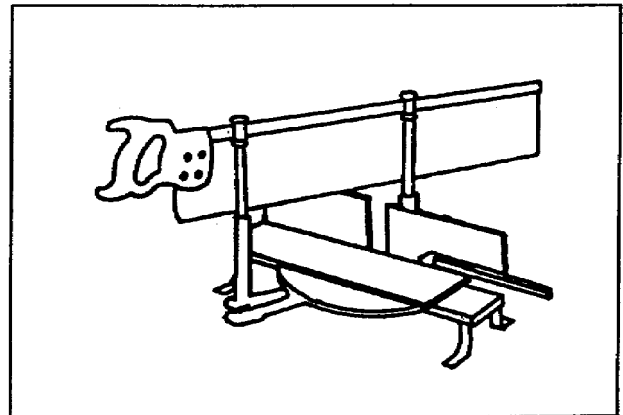

Figure 2-11. Miter saw
(6) Miter Saw. A miter saw is used with a miter box. The saw is held in a horizontal position and can be adjusted to cut various angles. It is used to cut moldings and picture frames to fit. It can be adjusted to cut at right angles for small pieces of wood. To cut a piece of molding to a specified angle: set the saw to the prescribed angle, insert the piece in the proper position against the fence, and move the saw back and forth across the material (Figure 2-11).